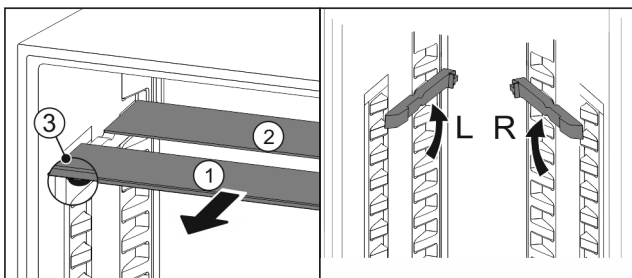

Fig. 90
- ▶ Pull the glass panels out Fig. 90 (1) from the front, one at a time.
- ▷ The glass panel Fig. 90 (1) with the trim strip is at the front.
- ▷ The stops Fig. 90 (3) point downward.